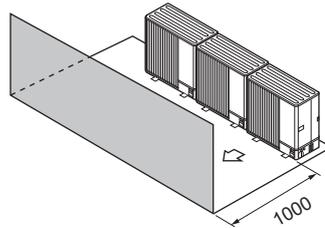

Fig. 1-14
- (3) Obstruction or closed surface at front only (Fig. 1-14)